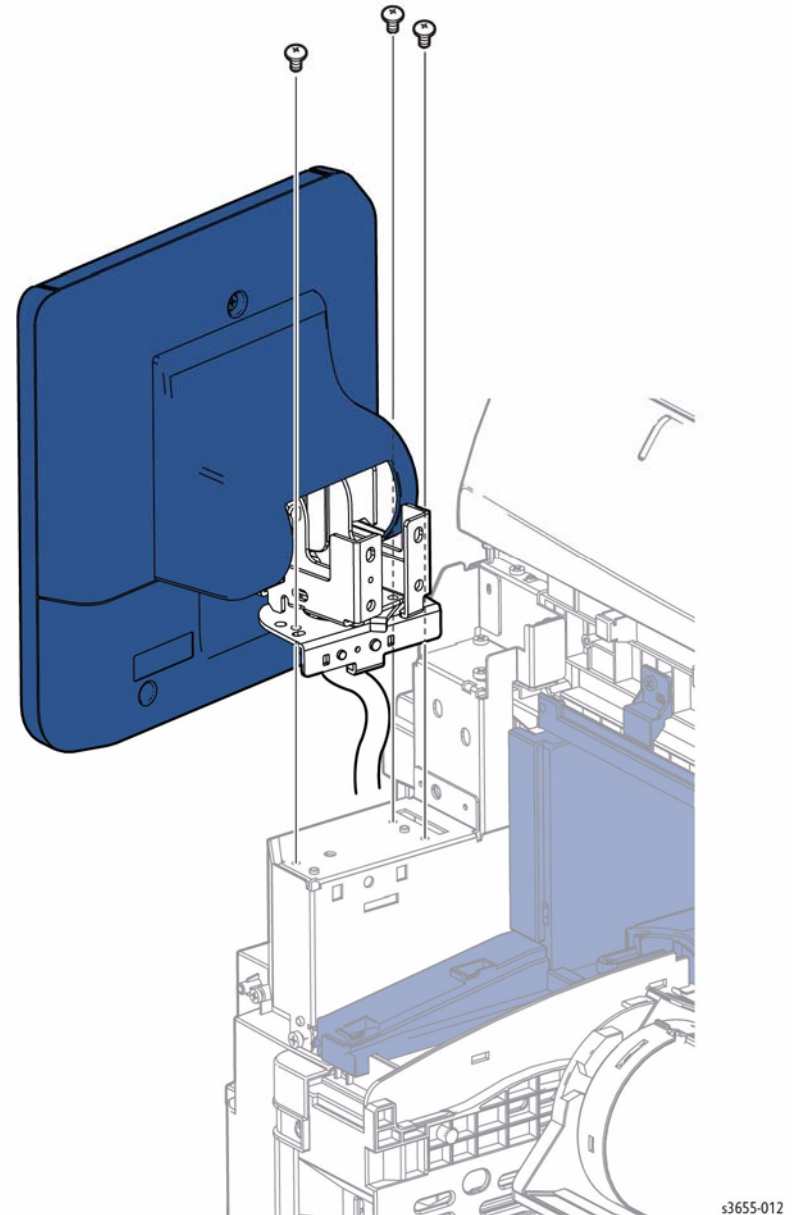

Figure 2 Remove the UI and Hinge Assembly
11. Refer to Figure 2 to locate and remove 3 screws (silver, M4, 6mm) that secure the UI Hinge Assembly to the chassis.